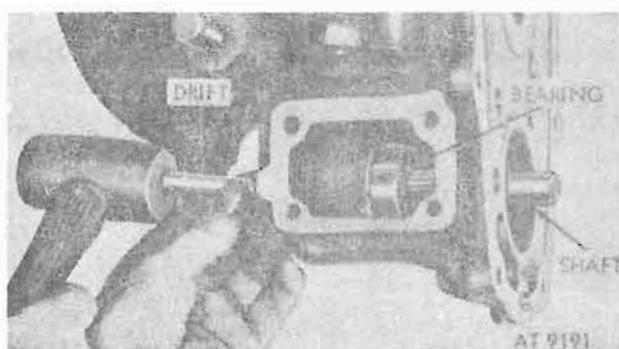

Figure 8-58. Removing bearing and output shaft assembly.
h. Using bronze or plastic drift, drive bearing and shaft assembly from transmission housing bore (fig. 8-58).
e. Install rear snapping on shaft (fig. 8-67) and then position output shaft and bearing assembly in case bore (fig. 8-68) and seat in position with drift (reverse procedures shown in fig. 8-58).